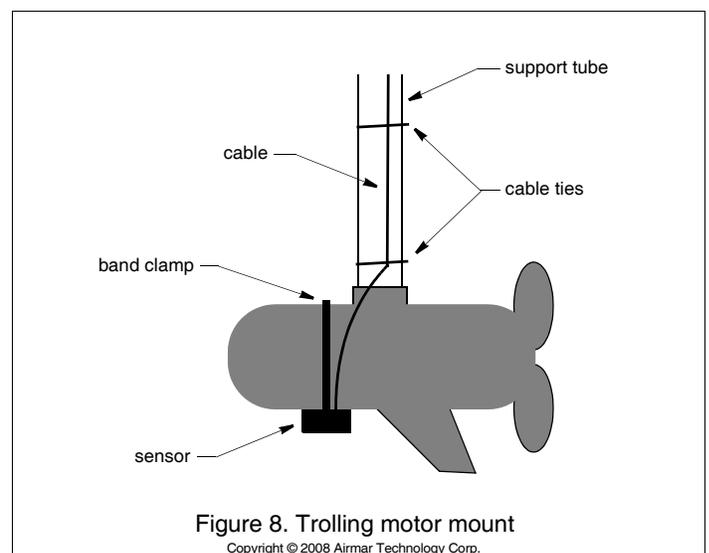

Figure 8. Trolling motor mount
3. Wrap the band clamp around the motor case with the sensor located on the underside (see Figure 8). Note that if the motor has a strut that shades the transducer, it will not significantly reduce the transducer's performance. *Being sure there is no tension on the cable where it exits the transducer*, tighten the screw on the band clamp.